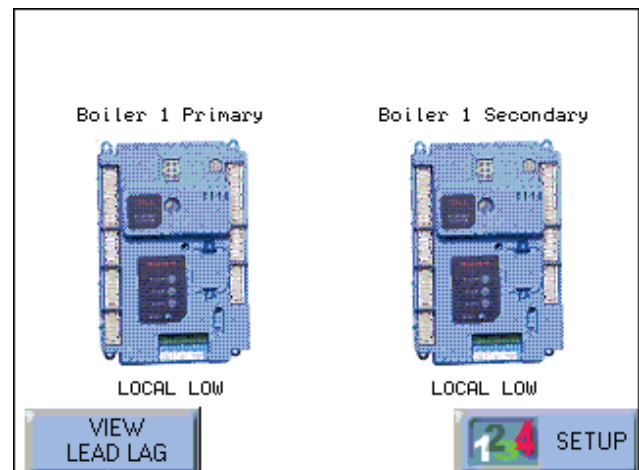

Fig. 117 – Home Screen
1. From the Home screen (Fig. 117), press the View Lead Lag button.